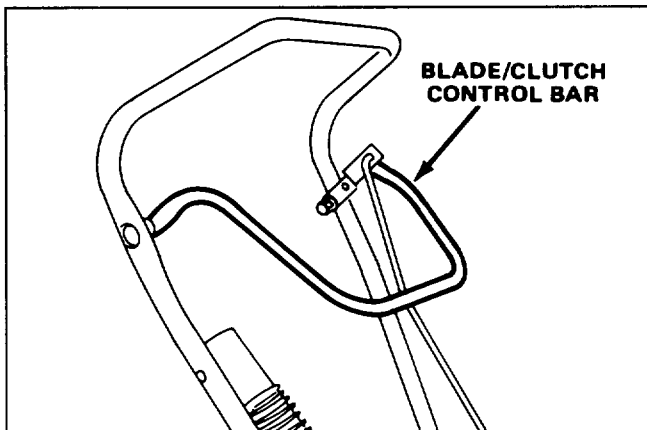
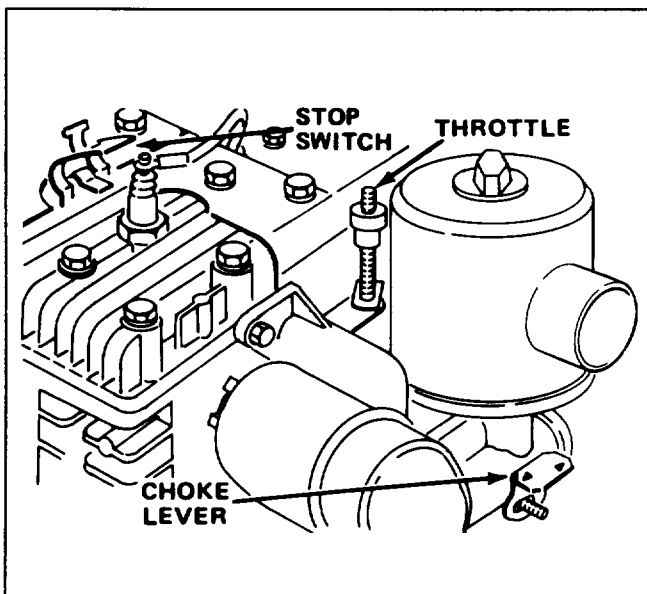
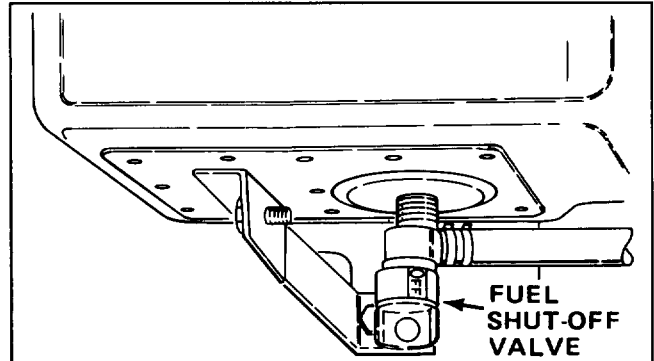
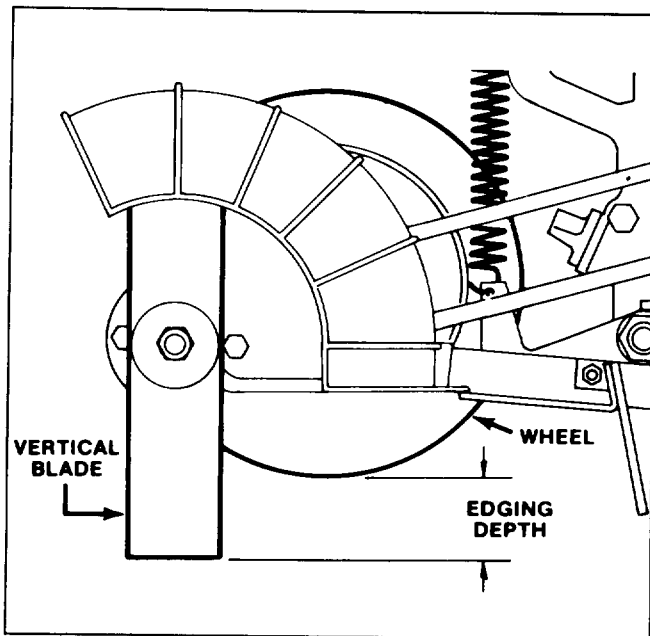

Figure 6
Figure 7
Figure 8
Figure 10
1. **CONTROLS**—Blade/clutch control bar is on upper handle (Fig. 6) and depth adjustment handle is on left side of upper handle (Fig. 10). Throttle, choke and stop switch are engine mounted (Fig. 7).
2. **STARTING**—Push wire onto spark plug and ensure blade control is disengaged. Push engine stop switch away from spark plug and make sure throttle is pushed down. Move choke lever to CHOKE position. A warm engine will require little or no choking. Rotate fuel shut-off valve to "ON" position (Fig. 8). Place foot on rear wheel and pull recoil starter out slowly until positive engagement results; then pull vigorously until engine starts. When engine starts, gradually move choke lever to "RUN" position.
3. **EDGING**—Squeeze blade/clutch control bar (Fig. 6) against handle to engage blade and move
4. **STOPPING**—Release blade/clutch control bar (Fig. 6) and push engine stop switch against spark plug. Close fuel shut-off valve (Fig. 8) before storing or transporting machine.
2. CHECK EDGING DEPTH (Fig. 10)—Squeeze blade/clutch lever against handle. Space between bottom of tire and ground is actual blade edging depth. If adjustment is required, go to step 3.